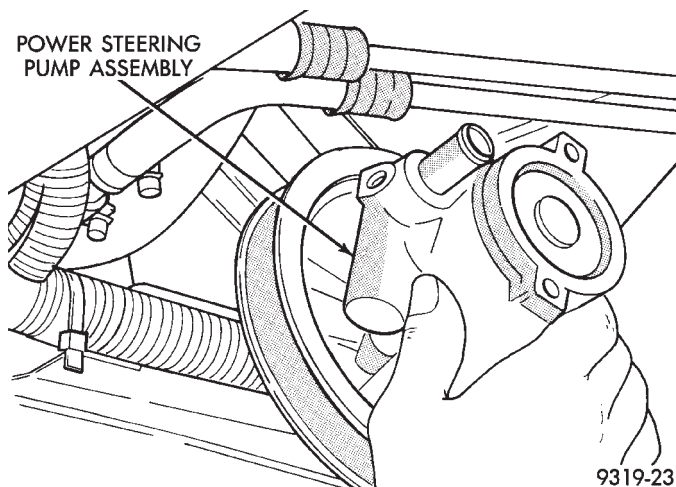

Fig. 6 Power Steering Pump Removal And Installation
(1) Install power steering pump back in vehicle from the bottom of the engine compartment (Fig. 6).